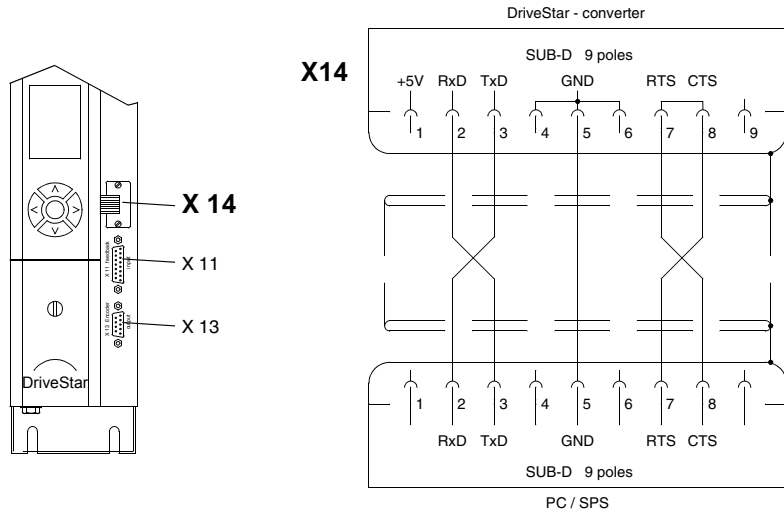

Fig. 6.20 B10-017 Connection serial interface RS 232
- X 14 RS 232, **D-DS_1**, H-DS.1, (see Fig. 6.20, page 29)